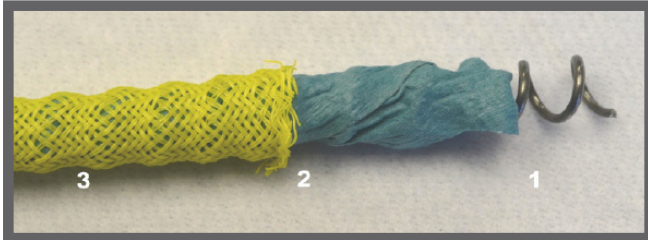

Figure 2. INJECTO® Tube Construction
A high strength spiral wire coil (1) prevents collapse during concrete placement, while the non-woven filter membrane (2) prevents the tube from being clogged with concrete particles. A bright yellow reinforced mesh sleeve (3) protects the tube and allows for easy inspection before the pour. Wherever old to new concrete surfaces join, the INJECTO Tube system can be easily installed (see Figure 2).